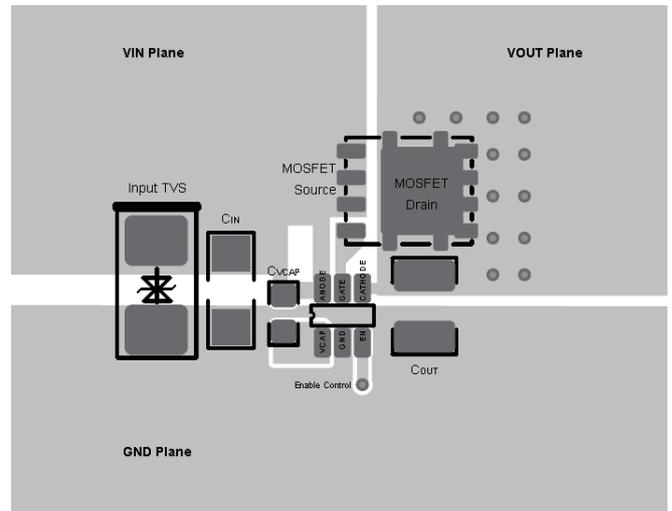

Figure 10. SOT-23-6 Layout Example
- ◆ Acceptable results can be obtained with different layout designs, but the layout in Figure 10 is a recommended approach for achieving good performance.